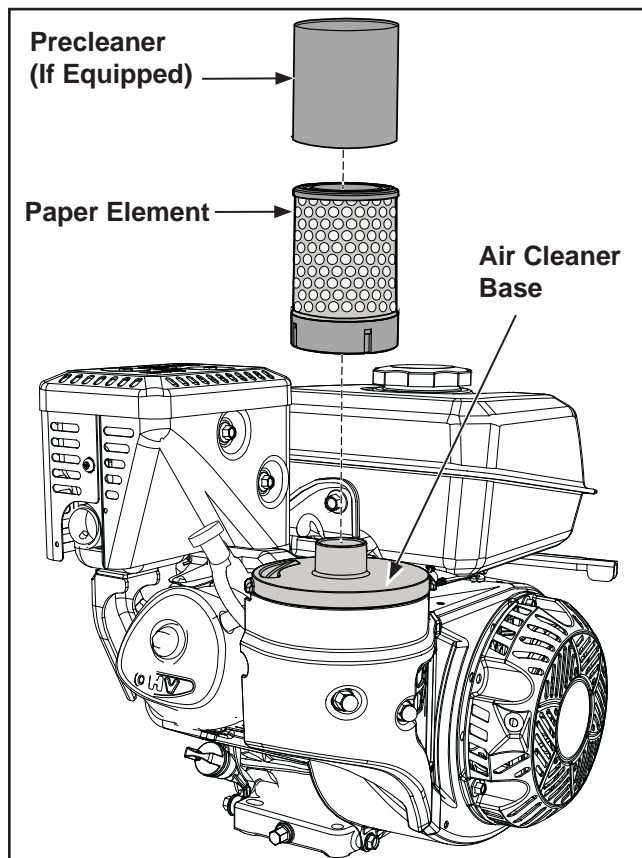

Figure 4-1. Air Cleaner Element and Precleaner.
These engines are equipped with a replaceable, high-density paper air cleaner element. Some engines are also equipped with a preoiled, foam precleaner which surrounds the paper element. See Figure 4-1. The system is CARB/EPA certified and the components should not be altered or modified in any way.
1. Remove the air cleaner cover. Move the bails on the air cleaner cover down. Remove the latches from under the tabs of the air cleaner base. Lift and remove the air cleaner cover from the air cleaner base. Separate the precleaner from the element and service as outlined above. See Figures 4-1 and 4-2.
4. Slide the precleaner and paper element onto the air cleaner base. See Figure 4-1.